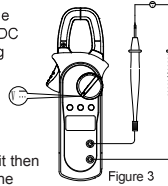

Figure 3
1. DC voltage measurement (\overline{V}) (See Figure 3)